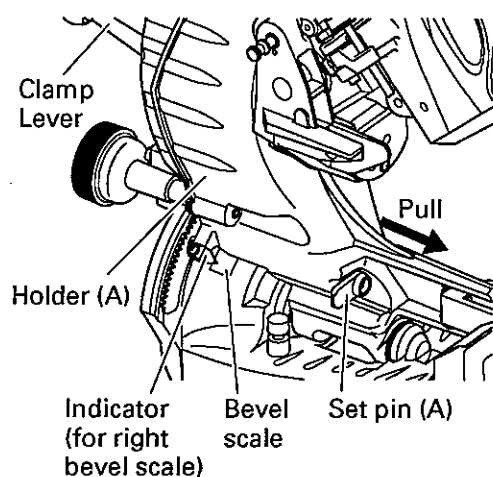

Fig. 30
- (1) Loosen the clamp lever and bevel the saw blade to the left or to the right. When tilting the motor head to the right pull the set pin (A) towards the rear. The clamp lever adopts a latchet system. When contacting the work bench and the main body, pull the clamp lever in the direction of the arrow mark as illustrated in Fig. 30, and change the direction of the clamp lever.
- (2) Adjust the bevel angle to the desired setting while watching the bevel angle scale and indicator, then secure the clamp lever.
- (3) Follow the procedures indicated in paragraphs 4,5 and 6 above. For maximum dimensions for bevel cutting, refer to "SPECIFICATIONS" table on page 12.